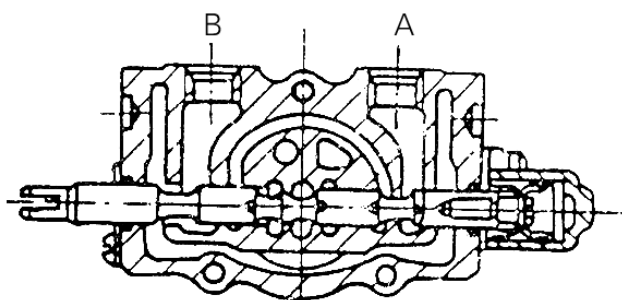

Fig.9-4
(3)Drawing-out of spool (See Fig.9-4)